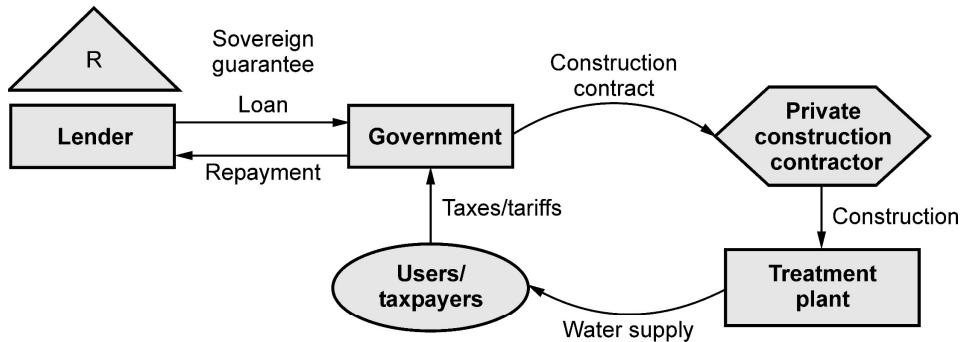
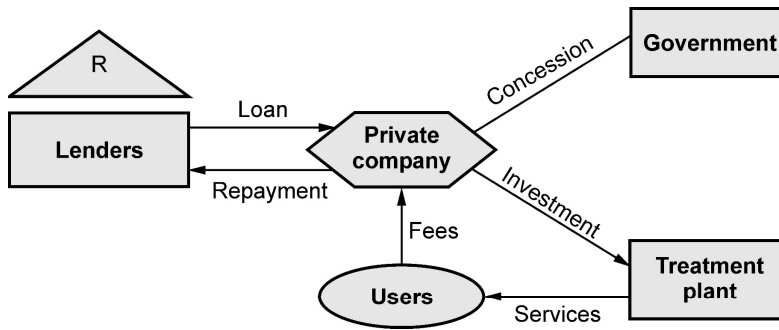
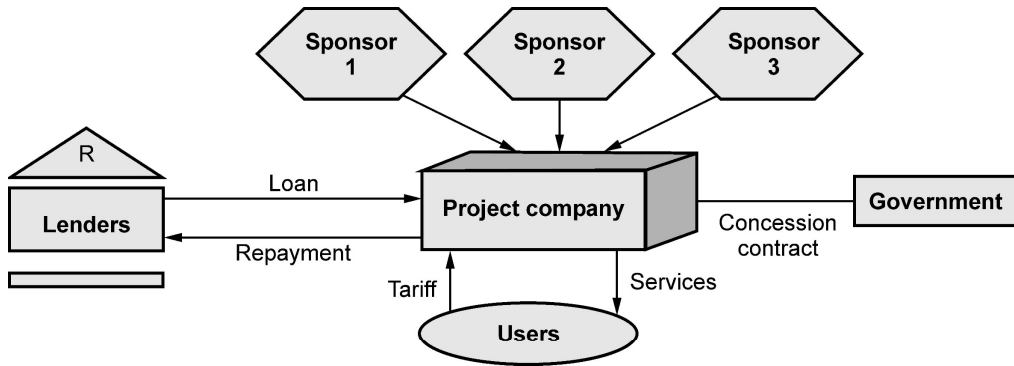

Fig. 5.3.1 Public finance structure
Fig. 5.3.2 The corporate finance structure
Fig. 5.3.3 Project finance
- Project funding can be obtained from various sources. The Fig. 5.3.1, Fig. 5.3.2 and Fig. 5.3.3 below demonstrate the difference between public, corporate and project funding, using an example of a water treatment project.